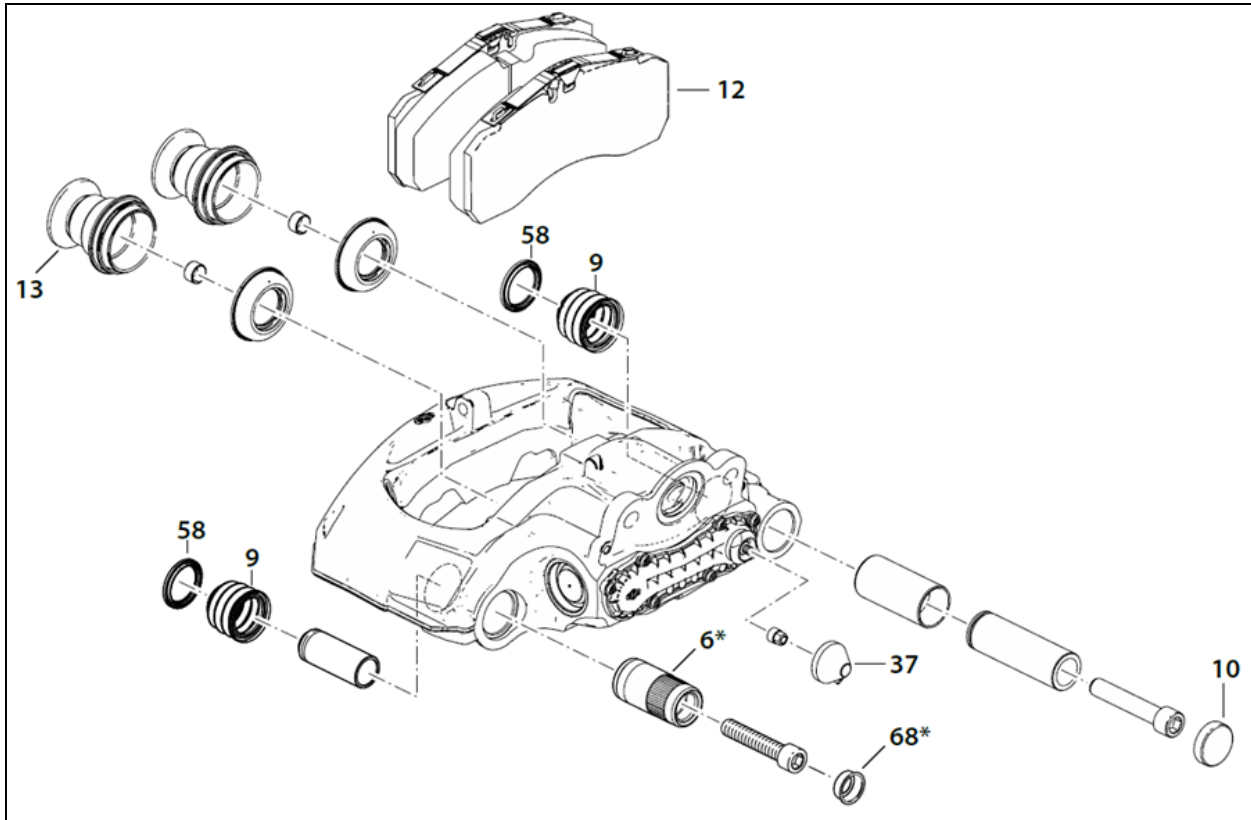
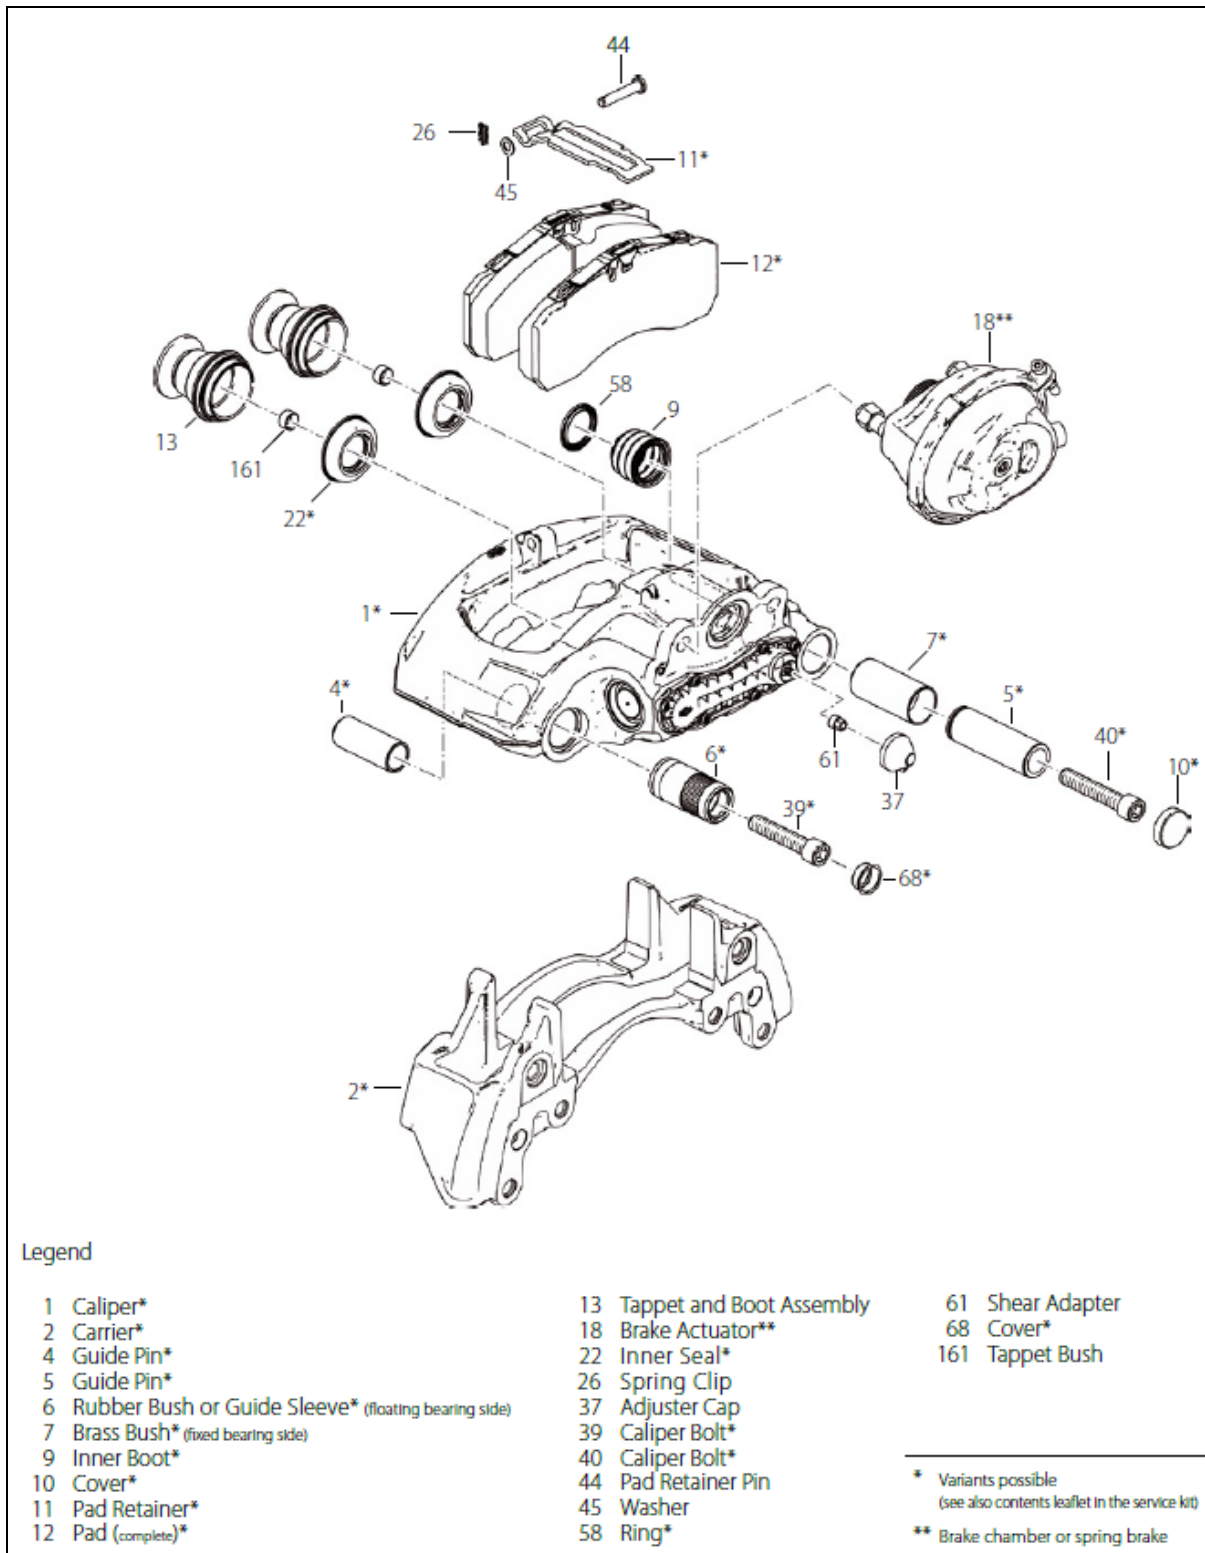

FIGURE 67: INSPECTION POINTS IDENTIFICATION
FIGURE 68: DISC BRAKE COMPONENTS
At each pad replacement, make sure the caliper operates smoothly over its full range of movement. If the caliper shows the following signs, replacement of the rubber bush/guide sleeve (item 6, Figure 67), guide pin (items 4 & 5 Figure 68, screw (items 39 & 40) and cap (items 10 & 68) is required.